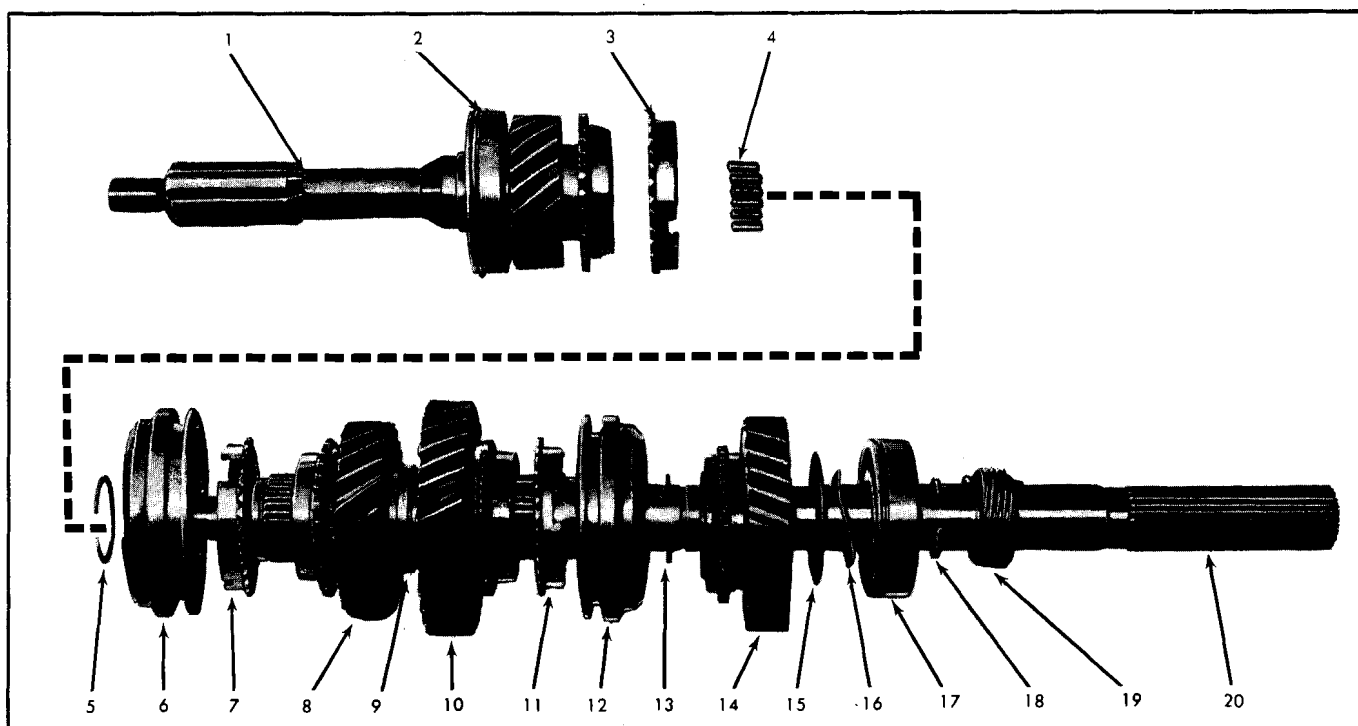

Fig. 7A-23 Exploded View of Mainshaft Assembly
6. Remove reverse idler gear retainer ring (Fig. 7A-18). Slide reverse idler gear forward on shaft.